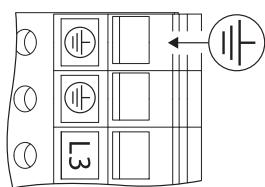

Fig. 29: Additional earthing
- Due to the increased discharge current in motors with more than 11 kW, it is also necessary to connect reinforced earthing acc. to EN 61800-5-1:2008-04 (see Fig. 29).**